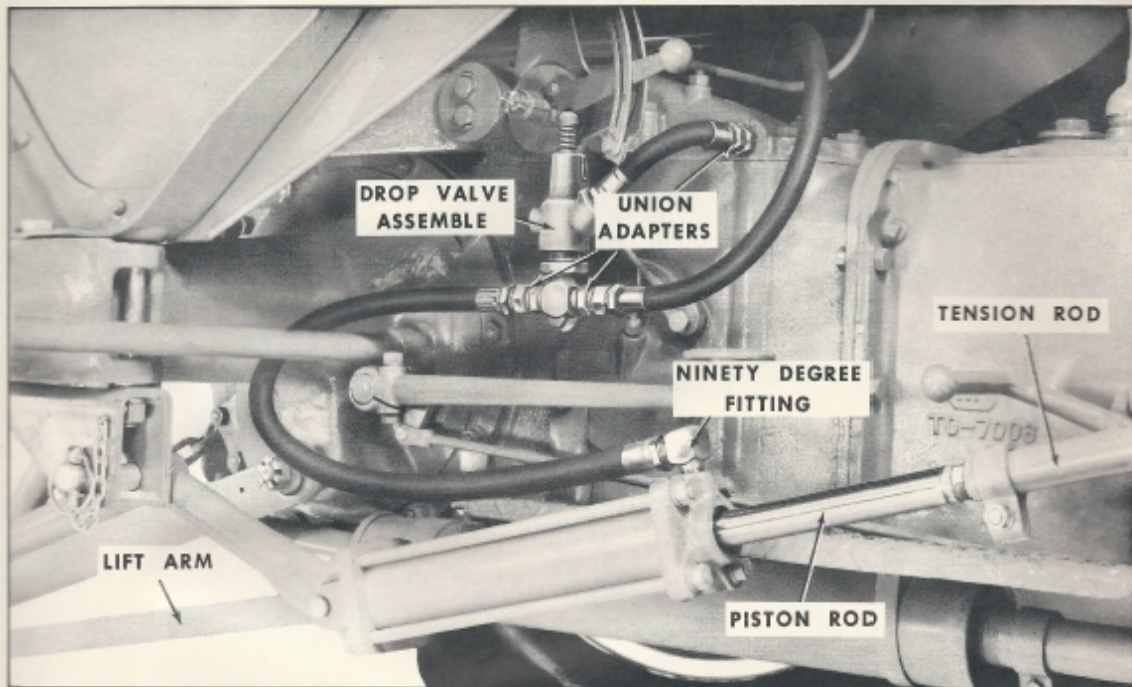

Fig. 10 Valve Assembly, Hoses And Cylinders In Place
9. Remove plugs and screw 90 degree fittings into the Loader Cylinders. These fittings should face toward the rear as shown in Fig.10. Attach the lower end of the cylinders to the Lift Arms with the clevis pins and cotter pins.